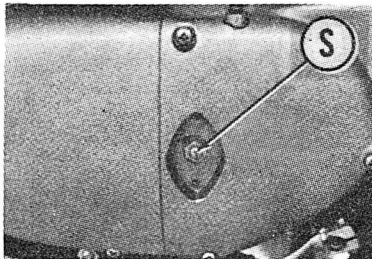

Fig. Y9-9—Clutch adjusting screw (S) is located under small plate on left side of engine. Make certain that lock nut is tightened after adjustment is complete.
**CLUTCH CONTROLS.** The clutch hand lever should have  $\frac{1}{8}$ – $\frac{1}{2}$  inch (2–3MM) free play at (A—Fig. Y9-8). To adjust, remove the small plate from engine left side cover. Loosen the lock nut and turn the adjusting screw (S—Fig. Y9-9) in until slight resistance is felt, then back the screw out  $\frac{1}{4}$  turn and tighten lock nut. Adjust the cable guide at hand lever end to provide the correct amount of free play at (A—Fig. Y9-8).